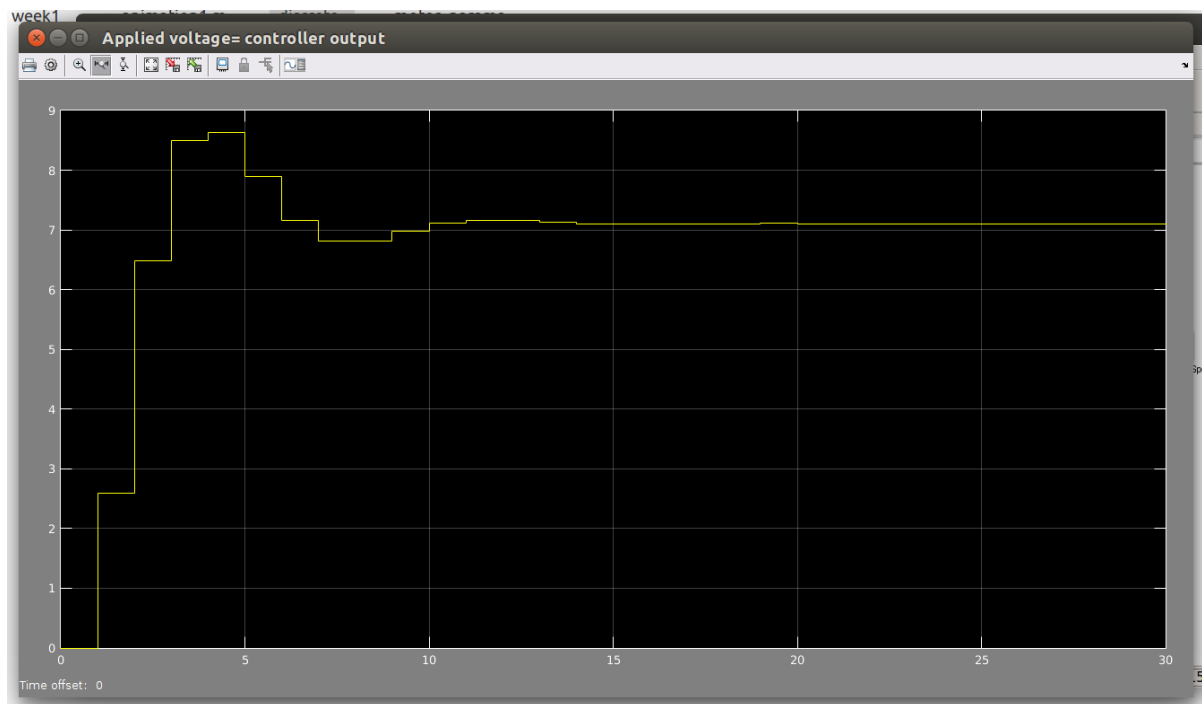

Figure 1.17: The output voltage of the discrete PID controller. `Tsample` was initialized to 1.0 seconds to magnify the steps.
5. Now do the simulation for a step reference-speed input and look at the response. Zoom in the voltage (controller's output) scope – you will be able to see how the controller changes the voltage only at discrete intervals (refer to Fig. 1.17). What happens when you increase `Tsample` to 0.5s or higher? Also look at the current scope.